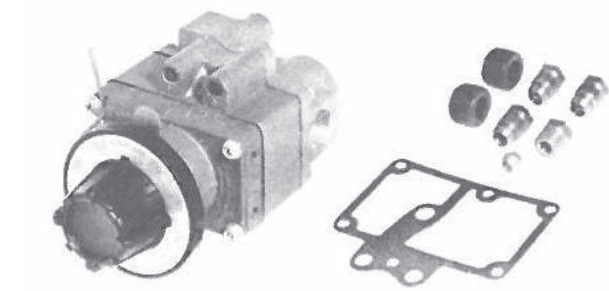

FIGURE 1
1. Turn dial counterclockwise to h i-stop and remove dial. Note position of tang against stop. See Figure 1.